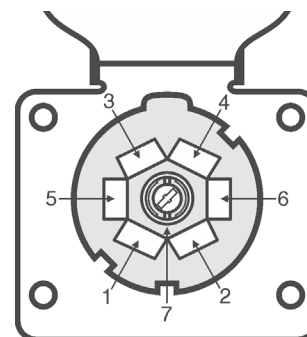

Figure 1
1. Attach one end of the included length of red 12 gauge wire to the charge line pin (the number 4 pin in Figure 1) in the motorhome's power cord socket.